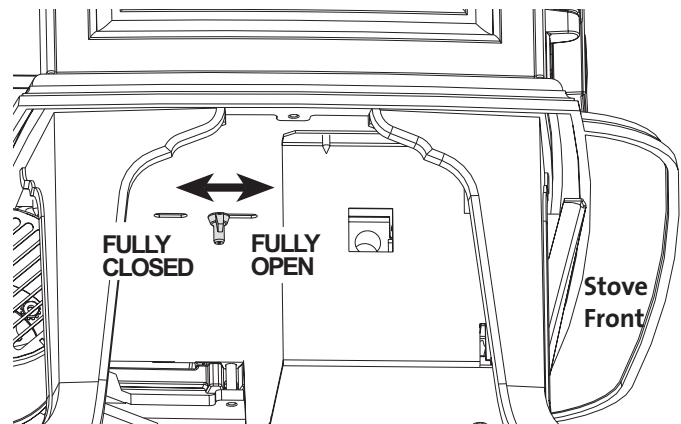

Figure 23. Locate and loosen the Air Shutter wingnut under the stove.
6. Reach under the stove and loosen the Air Shutter wing-nut. Push the shutter stem back to ease burner removal. See fig. 23.
16. **Adjust the Air Shutter.** You will need to position the shutter to provide a gas/air mixture that will achieve the best flame picture with your particular installation. Start with the shutter stem at the half-way position in the slot in the bottom of the stove. See fig. 23. Pushing the stem back will restrict air, while pushing it forward will open the shutter and increase air. With some experimentation, you will find the shutter position that works best for your installation.